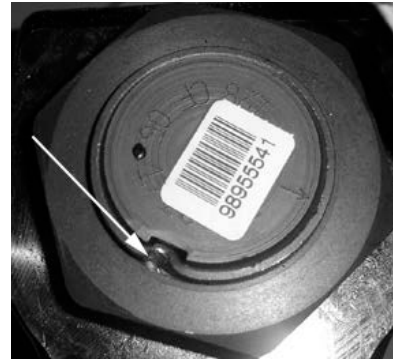

FIGURE 17: FIXING NUT PUNCH MARK
3. Lock nut with sector shaft using a punch mark into the groove (refer to figure 17).